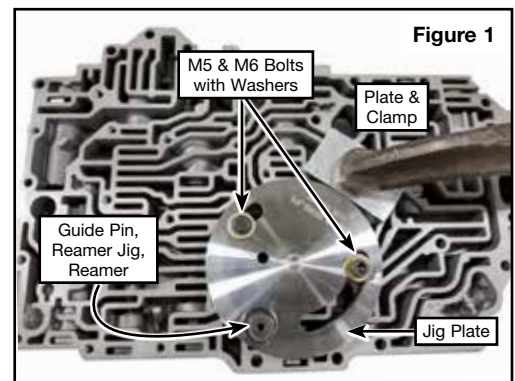

Figure 1
### 2. Bore Reaming (Figure 1)
- Position Sonnax jig plate and use the shorter M5 bolts along with washers to hold it in place where indicated, do not tighten bolts at this time (**Figure 1 & 2**).
- Position Sonnax jig plate and use Sonnax long M5 bolts, along with washers and wing nuts to hold it in place where indicated, do not tighten bolts at this time (**Figure 1**).